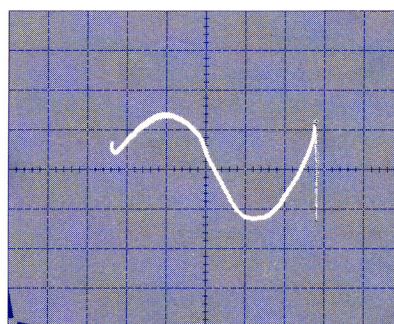

Figure 5-2. Gain curve with a 2-k Ω load, 50 μ V/div vertical sensitivity.
- 6) Display actual gain — Switch VERT UNITS/DIV to smaller values until display almost fills screen vertically in region between horizontal points corresponding to specified domain. As necessary, press DISPLAY ZERO to center trace on screen. Press UPPER and LOWER ERASE to clear screen, UPPER and LOWER STORE to save display. Refer to Figure 5-2. 50 48 3 2